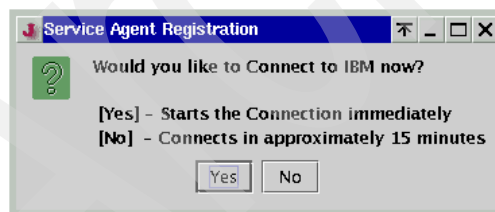

Figure 12-8 Service Agent Registration
5. When prompted to connect to IBM as shown in Figure 12-8, select **Yes** or **No**.